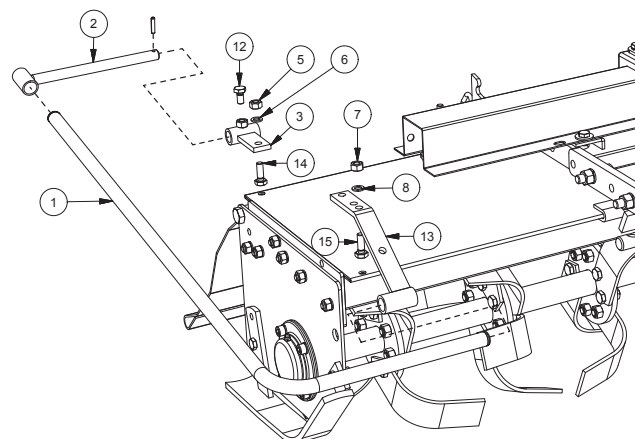

FIG. 9
1. Fit rear support (3, Fig. 9) with screw (14), nut (5) and washer (6).
2. Insert the support (2) securing it into position with the bolt (12).
3. Insert the longest side of the guard (1) into the rear support (2) and insert the front supports (13) into the guard (1).
4. Fit front supports (13) by means of screw (15), nuts (7) and washers (8).